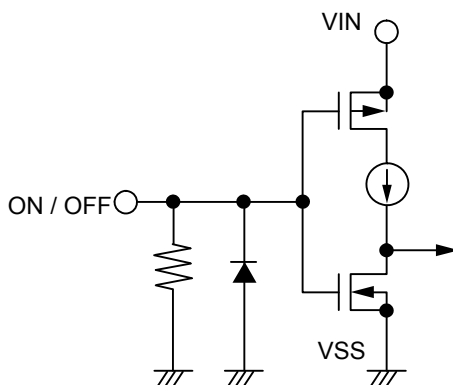

Figure 11
The ON / OFF pin is configured as shown in **Figure 11**.
*2. Note that the IC's current consumption increases as much as current flows into the pull-down resistor when the ON / OFF pin is connected to the VIN pin and the S-19254xxxH Series is operating (refer to **Figure 11**).